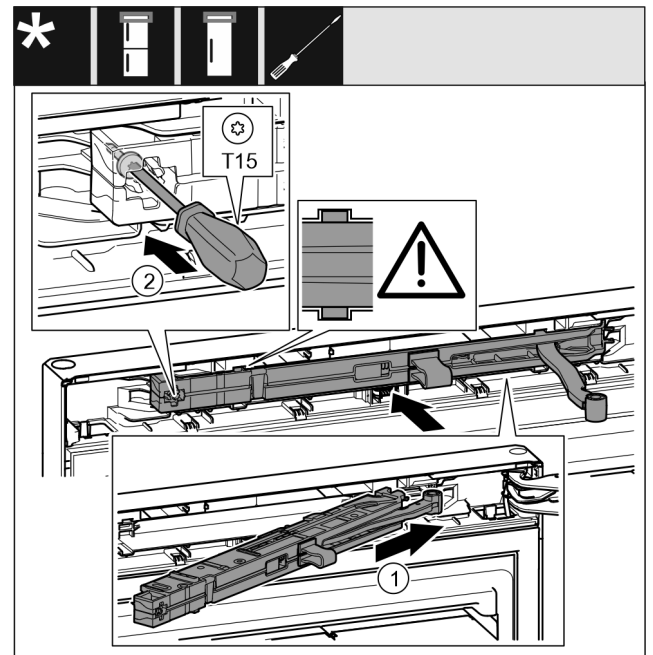

Fig. 24
- ▶ On the swap bearing block side, slide the closing damper unit *Fig. 24 (1)* into the recess at an angle up to the stop.
- ▶ Use a screwdriver to tighten the screw *Fig. 24 (2)*.